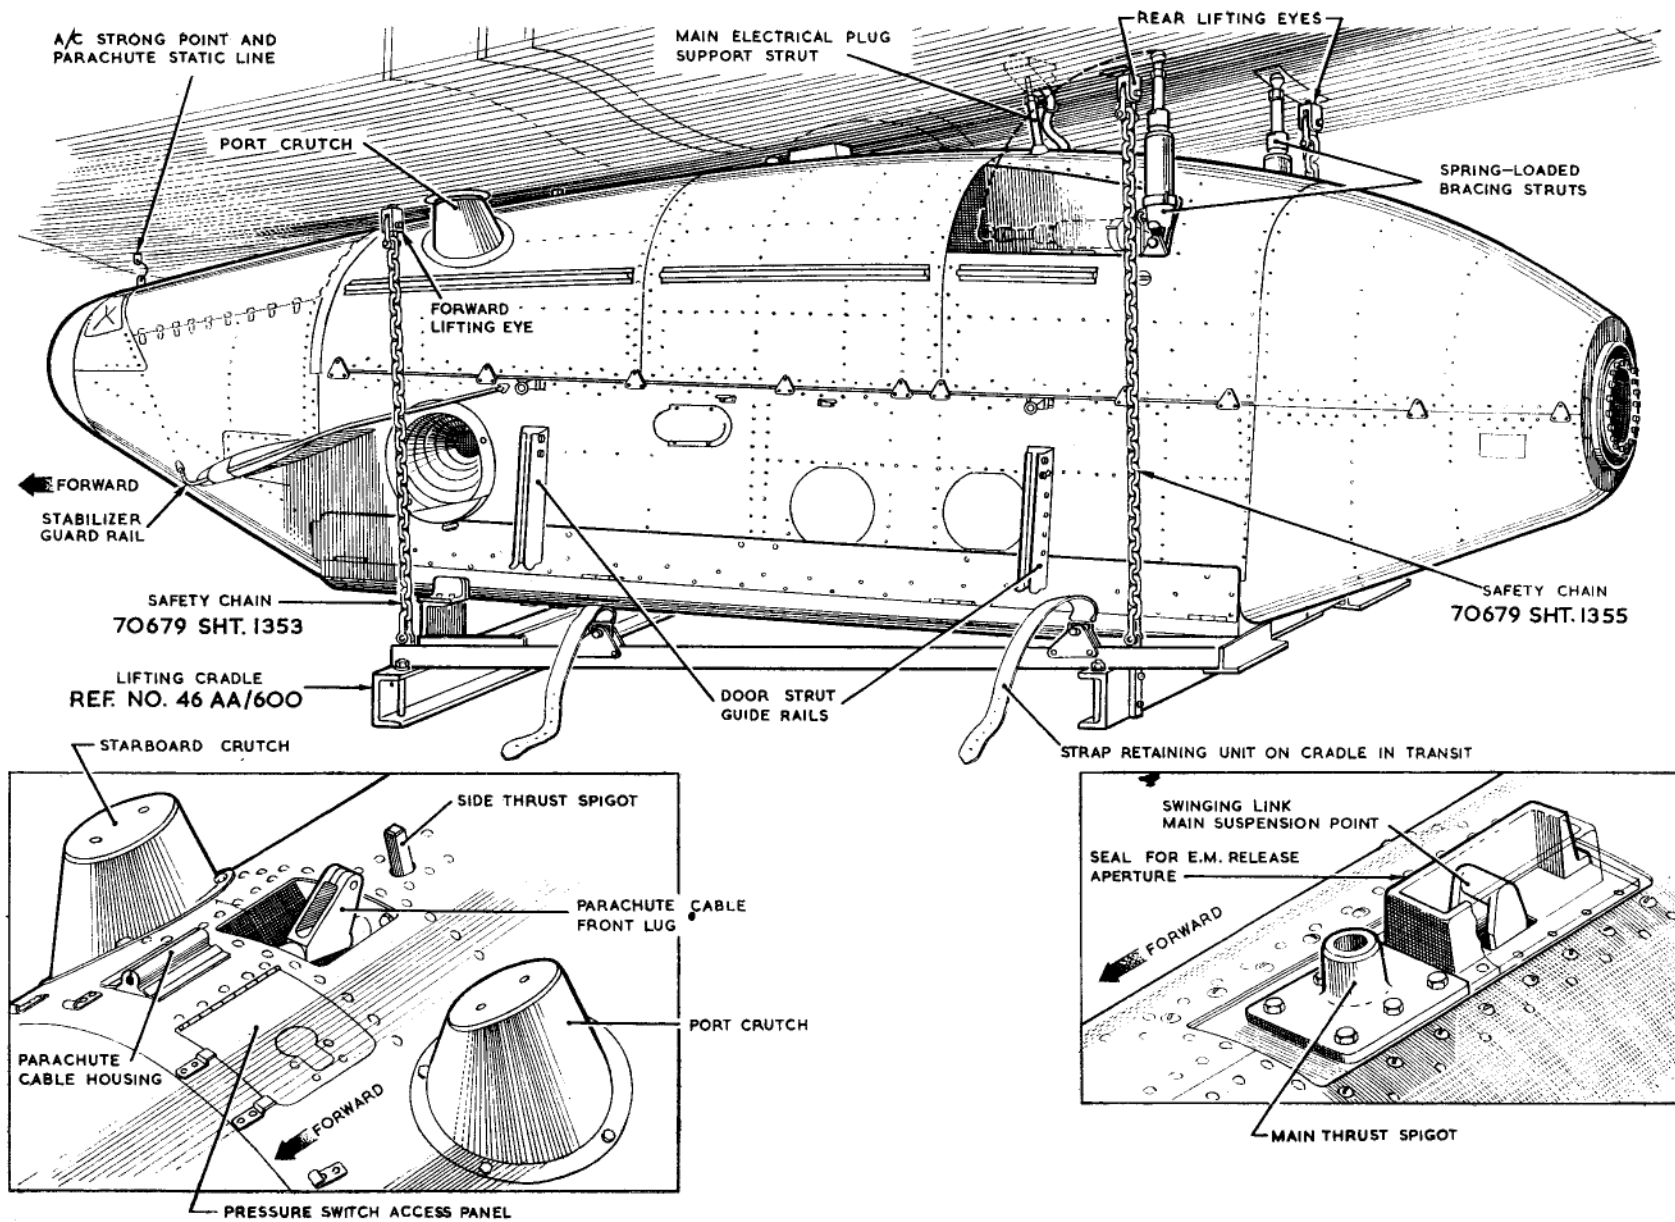

Fig. 5. Installed unit (port)
(6) Attach four winches to the lifting eyes (*fig. 5*) and pay out sufficient cable to allow the hooks to be attached to the cradle lifting shackles. The front cables pass inside the stabilizer guard rail.
(12) Check that the crutches are in contact with the inner plane surface. If they are not both correctly seated, it will be necessary to lower and realign the unit on rehoisting. When correct seating is assured, continue to wind all winches simultaneously and evenly until clutch slip indicates that the unit is fully home and correctly positioned.
(13) Disconnect the cocking test box.
(14) Release the straps securing the unit to the lifting cradle and operate the winches to lower the cradle approx. $\frac{1}{4}$ in. clear of the unit underside. In this position, rock the unit to check that it is correctly secured by the release unit.
(15) Hoist the cradle to its position in contact with the unit nacelle and remove each cable and hoist in turn, replacing them with safety chains (*fig. 5*) Pt. No. 70679 Sht. 1353 (front) and 70679 Sht. 1355 (rear).
(16) Slacken the knurled lock nuts on the spring-loaded bracing struts at the nacelle rear. Swing the struts into position and adjust finger-tight on the adjusters until their ball ends engage the inner-plane undersurface sockets. Turn the spring covers at the strut outer case lower ends until the slots in the end fittings can be seen.